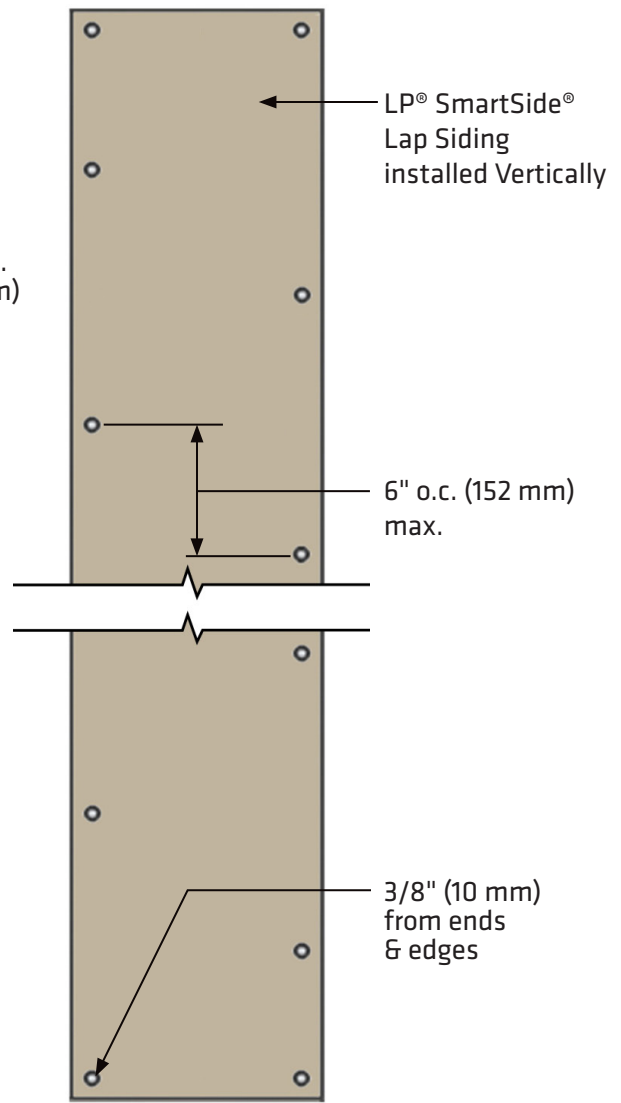

Figure 3c
- 3/8 inch (10 mm) from ends and edges *(See Figure 3c)*
- Fastened with two nails at both ends, with additional fasteners spaced a maximum of 6 inches (152 mm) o.c. along alternating edges *(See Figure 3c)*